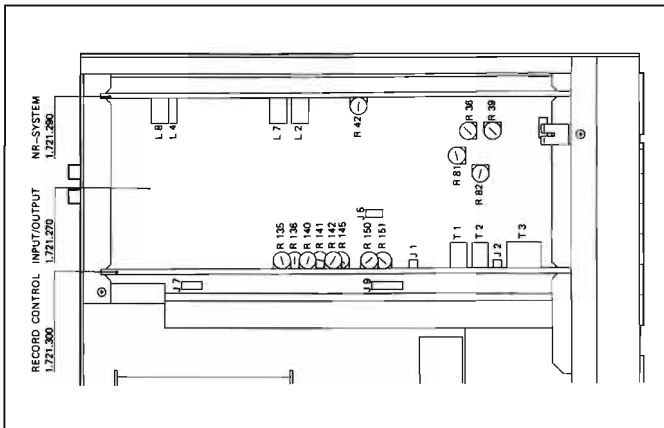

Fig. 5.1
- Align inductors L2 and L4 on NR SYSTEM board to minimum voltage on the output. The attenuation should be  $\geq 30$  dB (Fig. 5.1)
- With the trimmer potentiometer R42 (on the NR SYSTEM board) adjust the output level of the right-hand channel to the value of the left-hand channel (Fig. 5.1).
- Adjust the display with trimmer potentiometer R26 (on the SYSTEM CONTROL board) to 0 dB (Fig. 5.1).